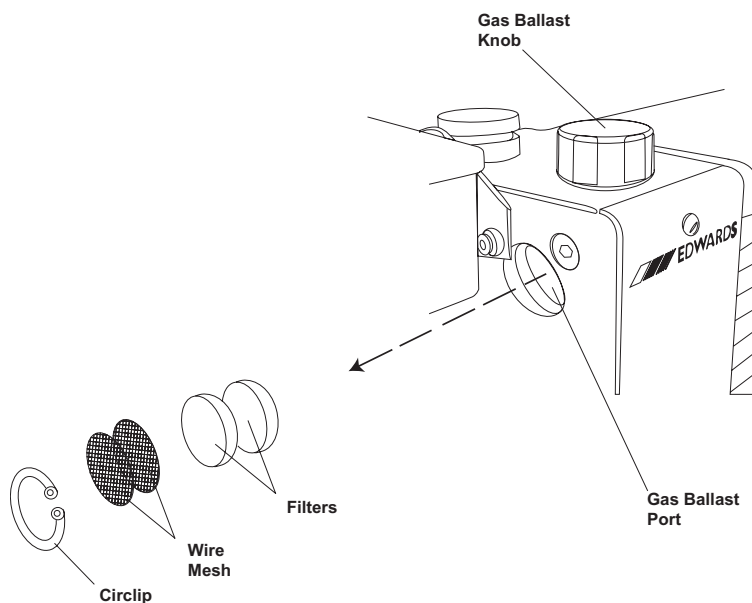

Figure 1-6. Removing the circlip, wire mesh, and filters
- a. Remove the circlip, wire mesh, and filters from the gas ballast inlet on the forepump (see Figure 1-6). Retain these parts for future use.